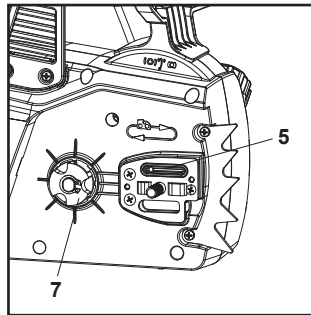

Fig. 37
1. Disassemble the guide bar (9) and saw chain (8) in reversed order from assembly.
2. Check the oiling port (5) for clogging and clean if necessary to ensure proper lubrication of the guide bar and saw chain during operation. Use a soft wire small enough to insert into the oil discharge hole (Fig. 37).